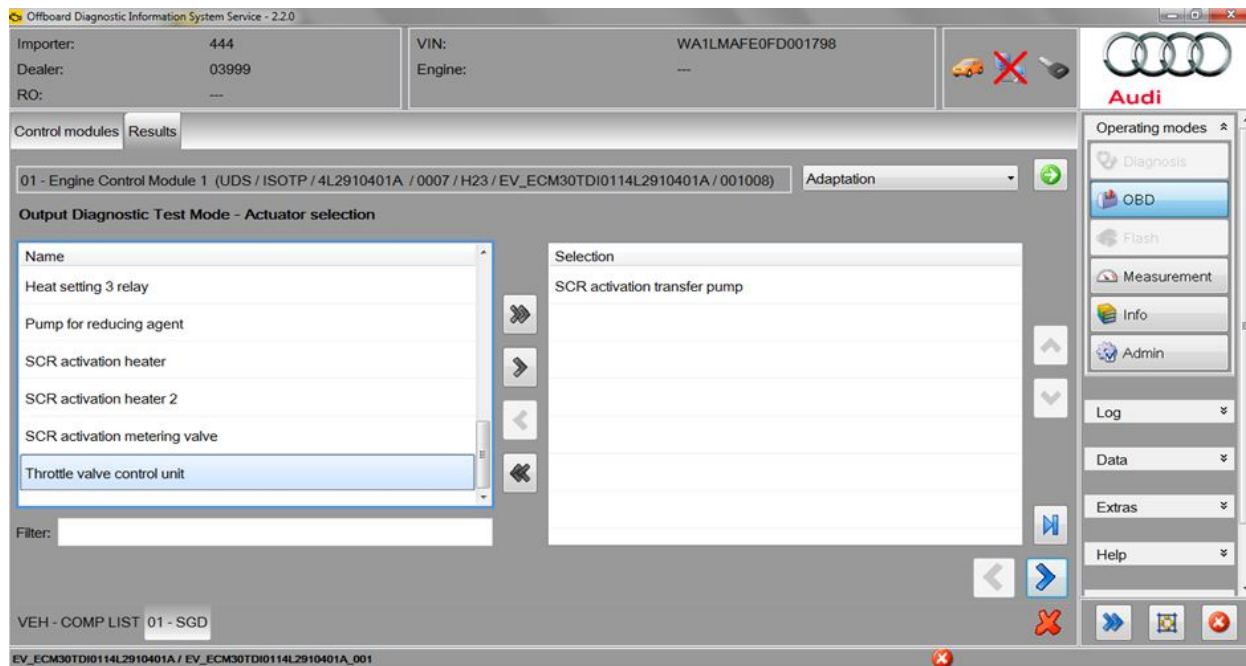

Figure 2. Output test of SCR transfer pump in ODIS for UDS vehicles
1. Locate the output test in ODIS under *OBD >> 01 Engine Control Module 1>> Output Diagnostic Test Mode>> Actuator selection>> SCR activation transfer pump* (Figure 2).